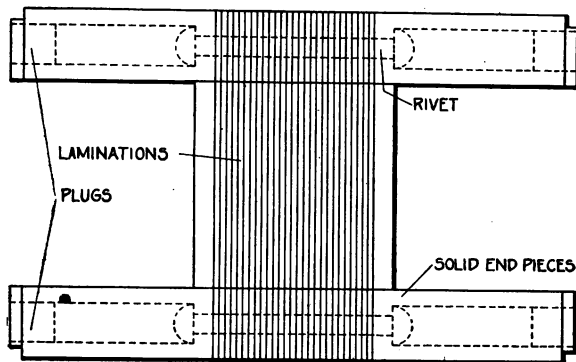

Fig. 416. Construction of Armature
**Causes.** This action is caused by several conditions in both material and design. All high-tension armatures are made up of thin steel punchings, or laminations, built up in the center, with solid-iron end pieces, Fig. 416; these laminations and end pieces are riveted through the edges which hold the assembly together.